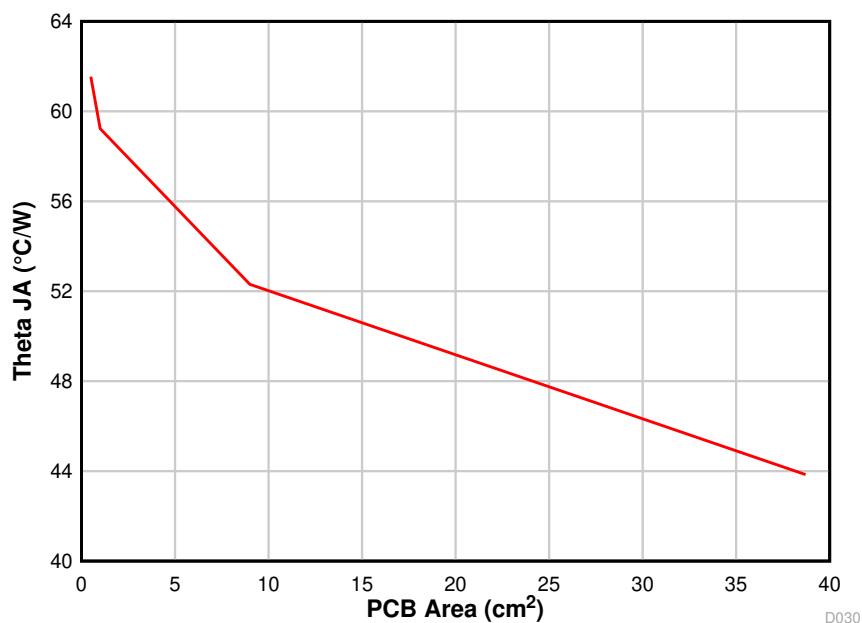

图 10-3. θ_{JA} versus PCB Area
The amount of PCB copper affects the thermal performance of the device. 图 10-3 shows the effects of copper area on the junction-to-ambient thermal resistance ($R_{\theta JA}$) of the TPSM265R1. The junction-to-ambient thermal resistance is plotted for a 4-layer PCB with an area from 0.5 cm² to 39 cm².
3. Reference 图 10-3 to determine the minimum required PCB area for the application conditions.